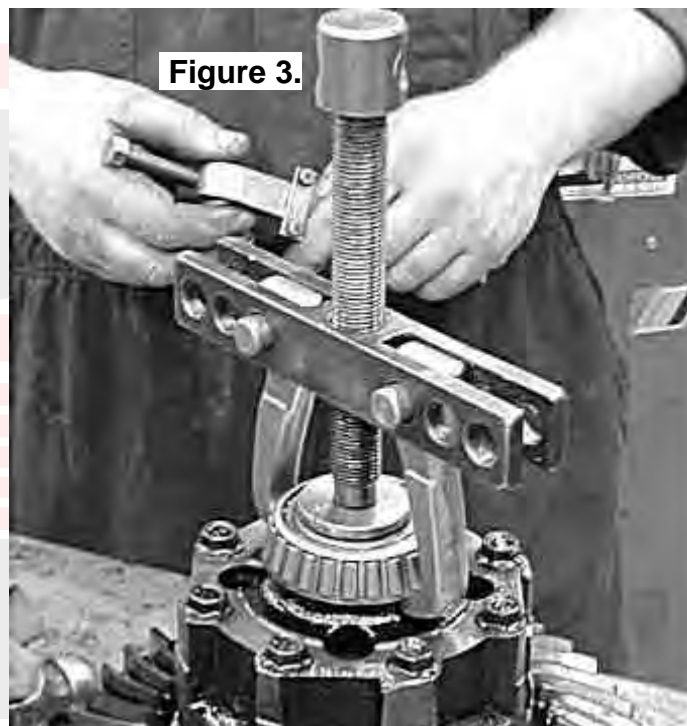

Figure 3.
- Remove the tapered roller bearings from the differential carrier with a bearing puller. (Fig.3.)